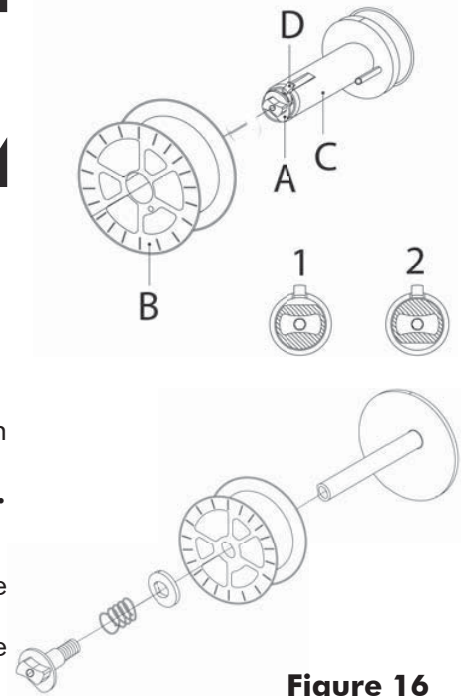
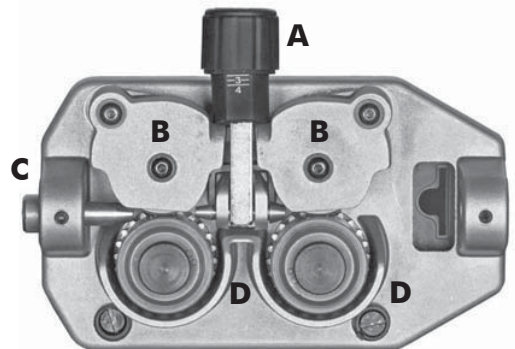

Figure 16
Figure 17
- Loosen the nut (A) of the spool holder (position 1) (brake drum). In the case you are replacing the wire spool, extract it by pushing the snap tongue (D) (Fig 16). Remove the plastic protection from the spool. Place it on the spool holder. Tighten the lock nut (A) turning it to position 2. (Fig. 16).
- Remove the wire spool (B) from the spool holder (C).
- Loosen the nut (A), remove the spring and the washer; remove the spool holder (C) from the pivot.
- Tighten the lock nut (A).
**Tighten nut (A) to appropriate tightness. Excessive pressure strains the wire feeding motor. Too little pressure does not allow the immediate stop of the wire spool at the end of the welding.**
- Loosen and lower the plastic knob (A) (Fig.17). Open the pressure arm (B) of the feeder. Extract the wire from the torch liner.
- When the wire is disconnected, grasp it with pliers so that it cannot exit from the spool. If necessary, straighten it before inserting it in the wire input guide (C). Insert the wire on the lower roll (D) and in the torch liner.
- Lower the pressure arm (B) and place the knob (A). Tighten slightly. If tightened too much, the wire gets locked and could cause motor damage. If not tighten enough, the rolls will not feed the wire.